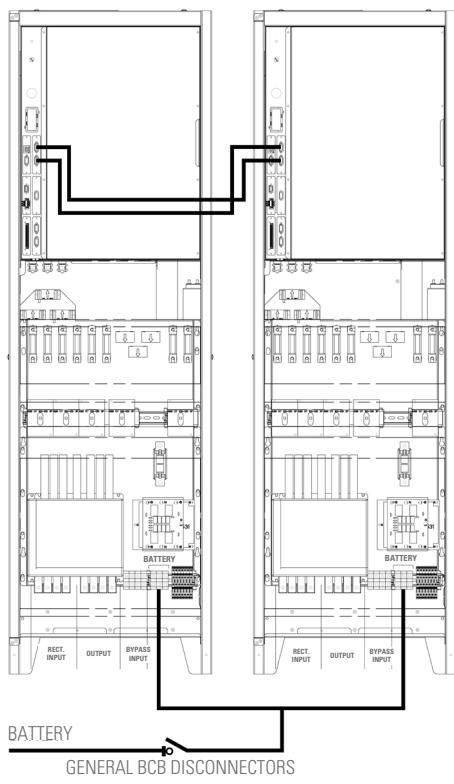
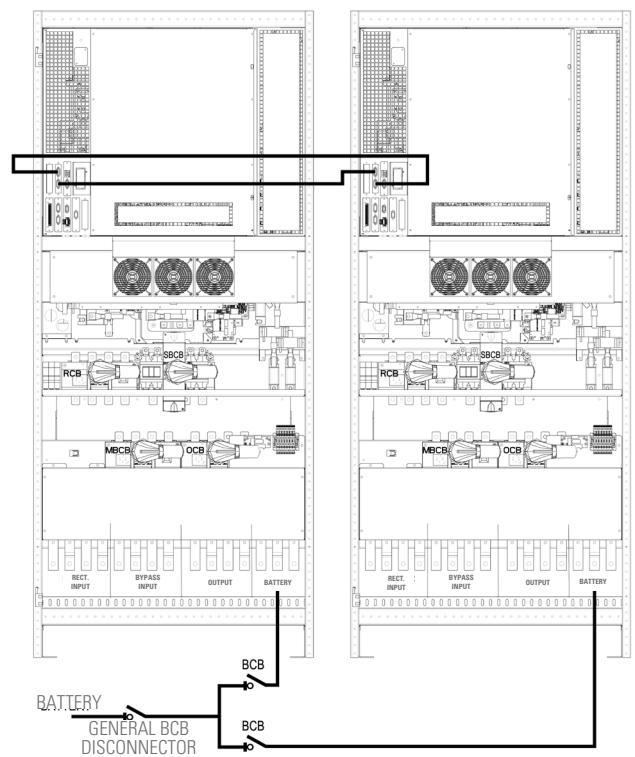

Fig. 46. *BUS-CAN common battery connection in SLC X-PERT 80 kVA.*
Fig. 49. *BUS-CAN common battery connection in SLC X-PERT 200 - 250 - 300 kVA.*
**!** To connect the UPSs in parallel, we recommend using cables of the same length and cross section for both the input and output (see Fig. 46 to Fig. 49), in accordance with the units' power.